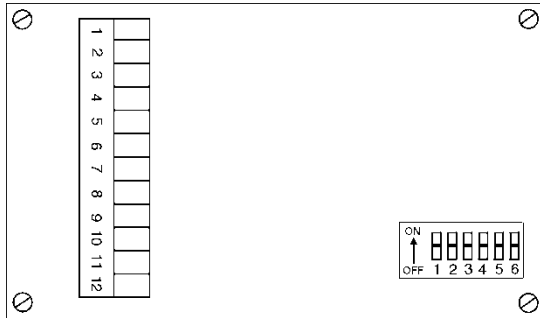

Figure 2. Connector and Switches on PIB Board
The default setting from the factory is "times 1." The switch is closed (ON). To multiply the incoming pulses times 2, push the switch of the incoming pulse channel to the open (OFF) position. The switches are located on the PIB boards, as shown in Figure 2 above. The PIB board that is located on the EAAI board is for pulse inputs 1 through 6. The PIB board that is located on the BSE board is for pulse inputs 7 through 12.